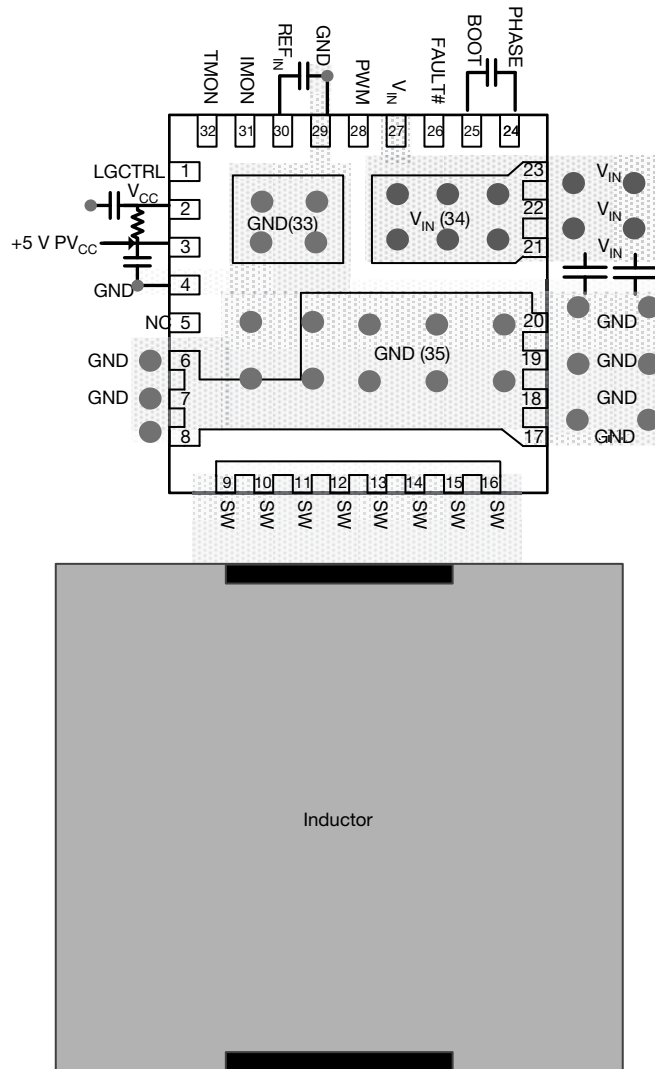

Fig. 16 - Single-Phase PCB Layout for Minimizing Current Loops
- Place multiple 10 μF or greater ceramic capacitors directly at device between V_{IN} and P_{GND} as indicated in Fig. 16 This is the most critical decoupling and reduced parasitic inductance in the power switching loop. This will reduce overall electrical stress on the device as well as reduce coupling to other circuits. Best practice is to place the decoupling capacitors on the same PCB side as the device. For a design with tight space requirements, these decoupling capacitors can be placed under the device, i.e., bottom layer, as shown in Fig. 18
- Place PV_{CC}, V_{CC} and BOOT-PHASE decoupling capacitors at the IC pins as shown in Fig. 16.